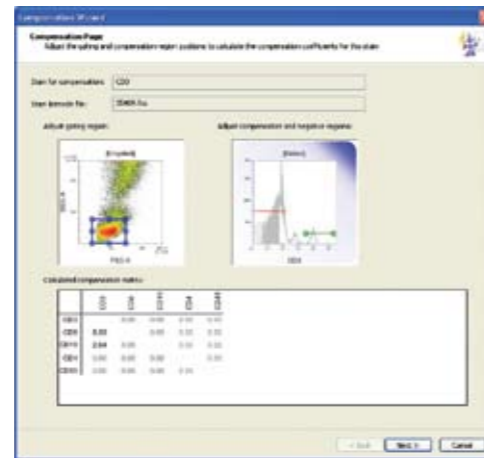

Figure 3. Compensation page of the wizard that allows adjustment of the regions for compensation.
4. On the compensation page, adjust the gating and compensation regions to capture the populations for calculating the coefficients of the fluorochrome. See fig.3